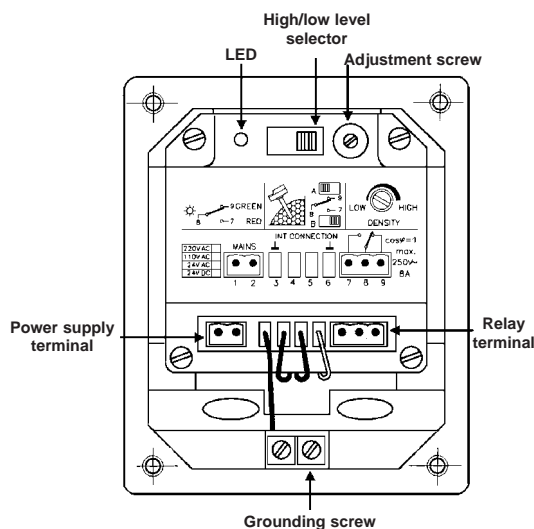

Figure 4
4. Connect power leads to the proper terminals. To allow access to the terminals, the unit utilises easy to remove connector plugs (power terminals are 1 and 2, see **Figure 4**).
5. Connect control circuit leads to relay terminals. (7, 8 and 9, see **Figure 4**)
After being properly installed the unit is fully operational. The LED will show the relay status. By touching the rod by hand and thus performing a damping of the vibration the LED will reverse colour. See **Figure 4**.
screw (see **Figure 4**) counterclockwise until the unit switches in that specific material.